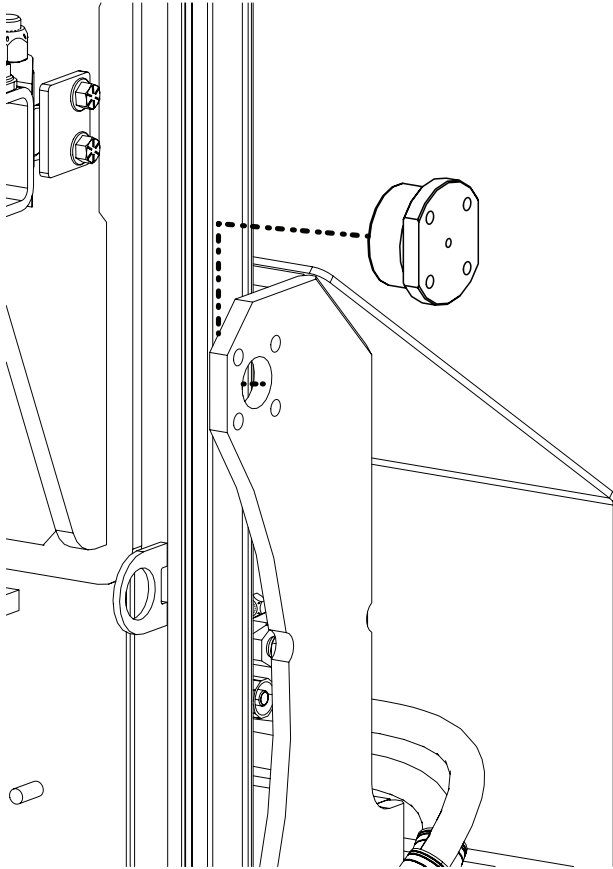

Figure 4
9. Slide the roller and its shim (if used) along the track until you can remove it from the track (Figure 4). Discard both the roller and its shim.